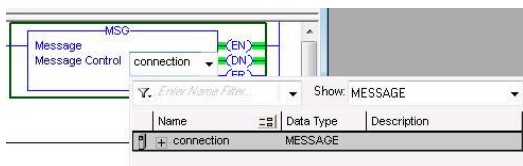

Figure 30: MSG Instruction Tag Assignment
- Edit the "Message Control" field on the MSG instruction to use the previously-created "connection" tag. Refer to Figure 30.